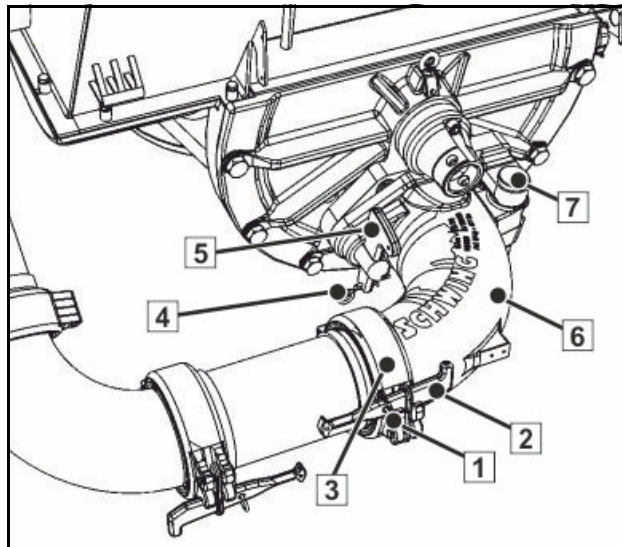
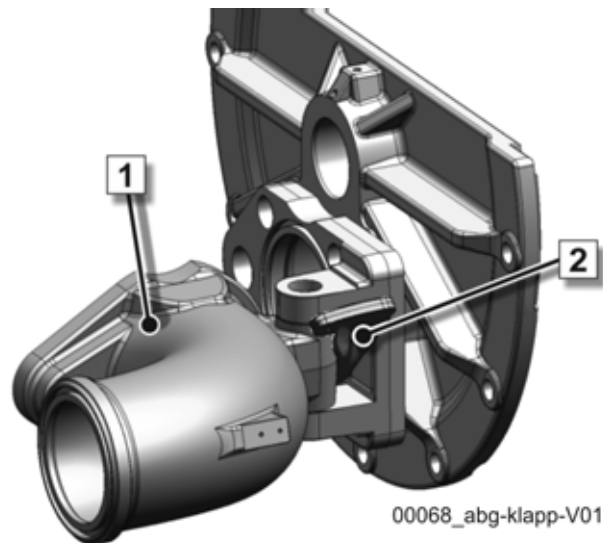

Fig. 149 Foldable outlet
Fig. 150 Wedge lock
- Pull the clip pin (1) (**Fig. 149**)
- Loosen the wedge (2)
- Remove the coupling (3)
- Pull the clip pin (4) out of the wedge (5)
- Remove the wedge (5) (**Fig. 149**) and keep it ready to use as a chock for the hinge (7)
- Fold open the outlet (6) to the right
- At an opening angle of approx. 100°, the wedge (5) (**Fig. 149**) can be wedged into the notch on the hinge, as illustrated in (**Fig. 150**).